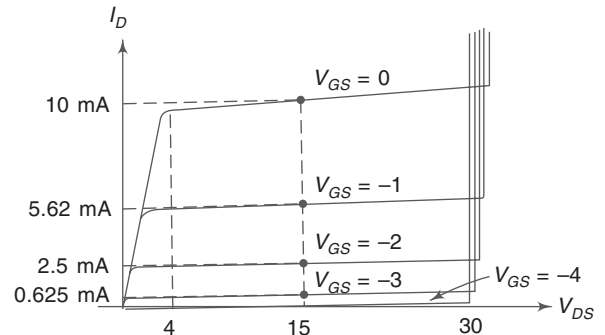

Fig. 7.44 Drain Curves of an *n*-Channel JFET.
- (b) Drain curves of a JFET (Fig. 7.44) resemble collector curves of a bipolar transistor. The highest
curve is for $V_{GS} = 0$. When the gate voltage is zero, the gate is effectively shorted to the source. This is called the *shorted-gate* condition. The *pinch-off voltage* is the drain voltage above which drain current becomes almost constant for the shorted-gate condition. When the drain voltage equals V_p , the conducting channels almost touch and further increases in drain voltage produce only a very slight increase in drain current. In Fig. 7.44, $V_p = 4$ V. The *shorted-gate drain current*, I_{DSS} (Drain to Source with shorted gate), is a close approximation for the drain current anywhere in the active region for the shorted-gate condition. I_{DSS} is the maximum drain current with normal operation of a JFET. All other gate voltages are negative and result in less drain current. When $V_{GS} = V_{GS(OFF)}$ (*Gate Source cut off voltage*), the depletion layers touch, cutting off the drain current. In Fig. 7.44, $V_p = 4$ V and $V_{GS} = -4$ V.